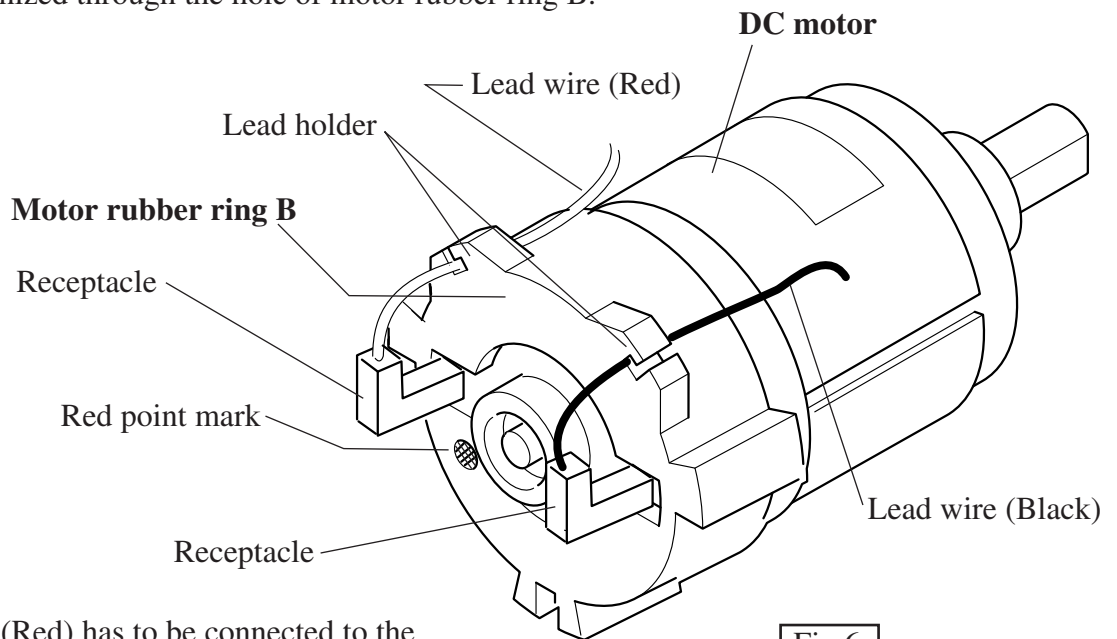

Fig.6
* Lead wire (Red) has to be connected to the terminal of red point mark side.(see Fig.6)
* Receptacles have to be assembled so that the lead wires can be guided through the lead holders smoothly. (see Fig.6)